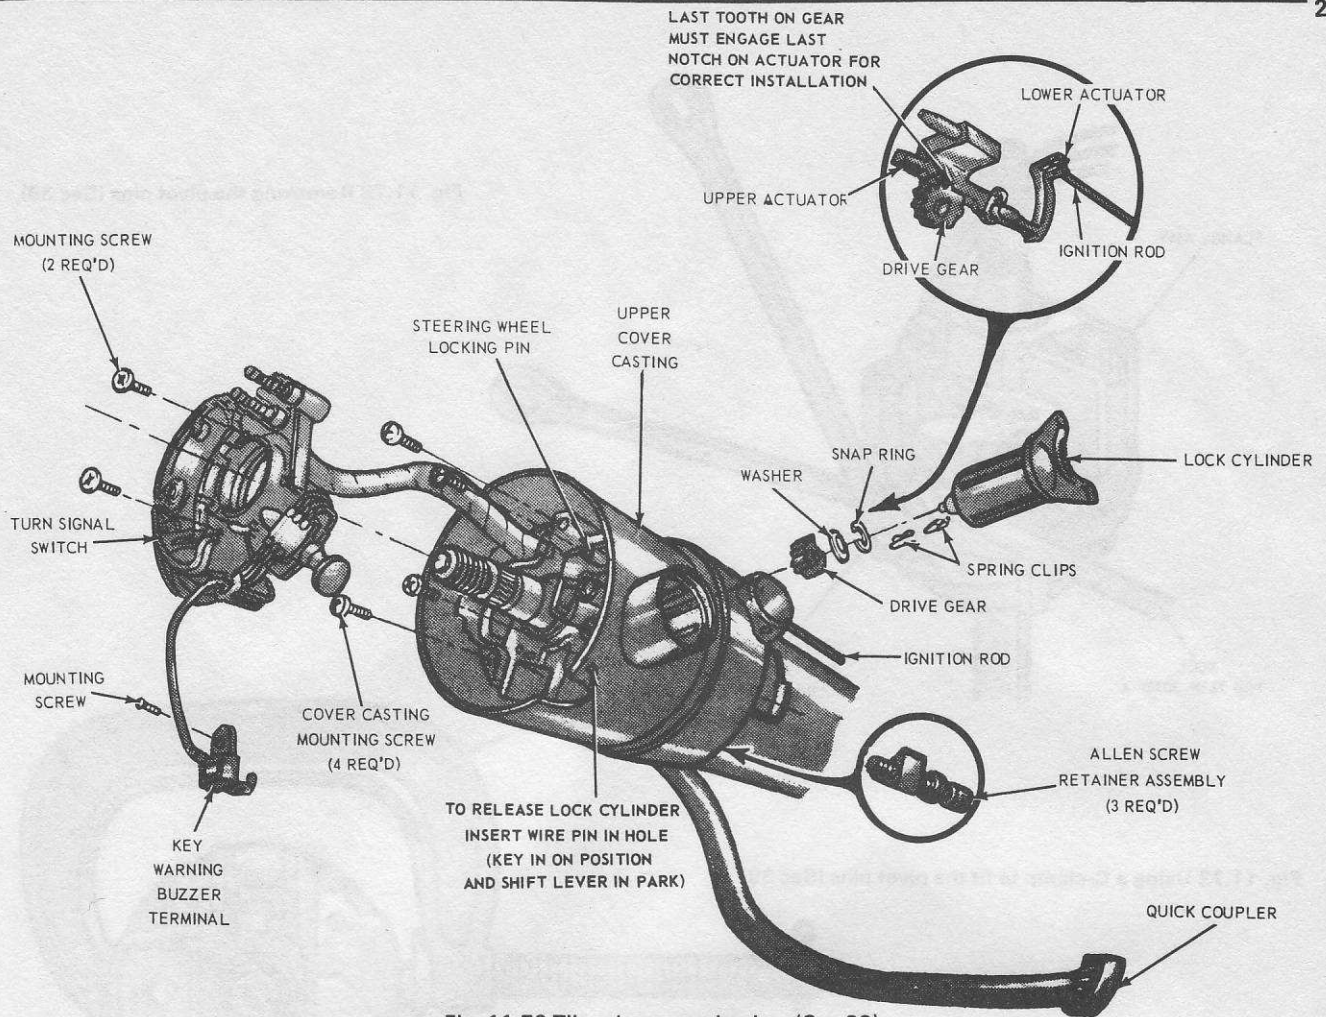

Fig. 11.70 Tilt column mechanism (Sec 39)
- 7 Using a flat bladed screwdriver, insert the blade into the recess in the drivegear at the bottom of the housing. Turn the drivegear three notches in a counterclockwise direction. Remove the snap-ring, washer and drivegear (see Fig. 11.70). Note the position of the drivegear to the upper actuator teeth.